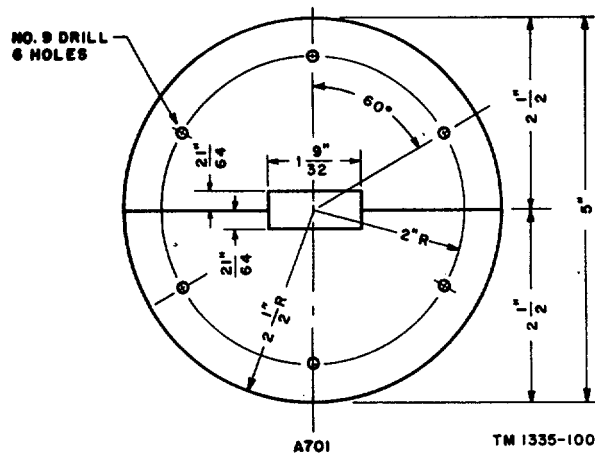

Figure 44. Waveguide ceiling plate, dimensional drawing.
- (2) At the top of the deck fitting, remove the two clamping bolts which hold the flanged ring.
- (3) Remove the two halves of the flanged ring, and insert the waveguide into the deck fitting.
- (4) Place the two halves of the flanged ring over the waveguide, replace the two clamping bolts, and fasten securely.
- (5) Apply Permatex No. 2 at the sealing faces of the deck fitting base and the flanged ring.
- (6) Install the ceiling plate (fig. 44) to hold the waveguide on the underside of the deck.